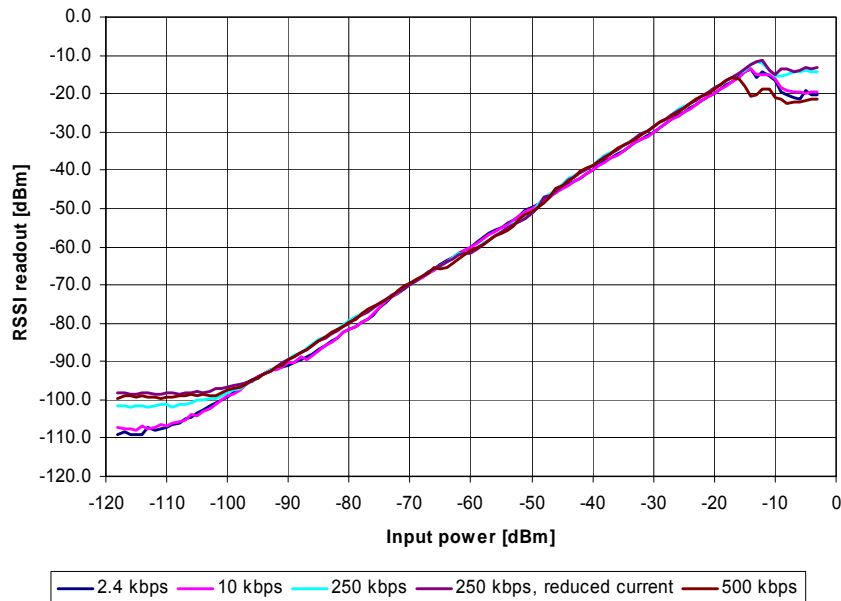

Figure 48: Typical RSSI value vs. input power level for some typical data rates
**Error! Reference source not found.** Table 63 gives typical values for the `RSSI_offset`. Figure 48 shows typical plots of RSSI reading as a function of input power level for different data rates.